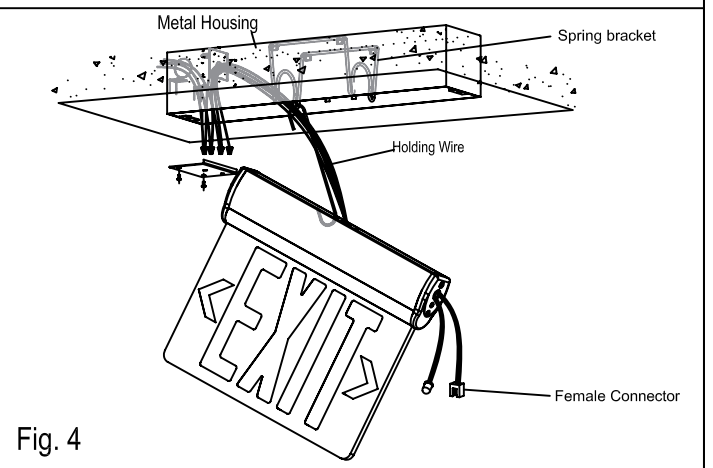

Fig. 4
5. Install Edge-Lit assembly to recessed kit by spring bracket. (See Fig. 4)